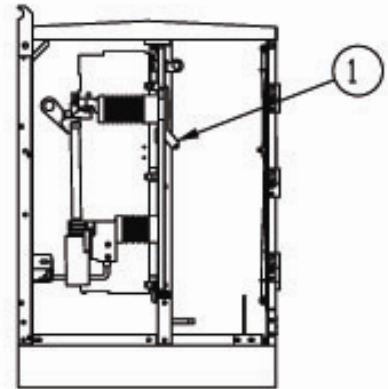

Figure 3
2. Raise mechanical interlock arm (Item 1) to unlock fuse access door (Figure 3).
3. Lower mechanical interlock (Item 1) down into locked position. (Figure 3)